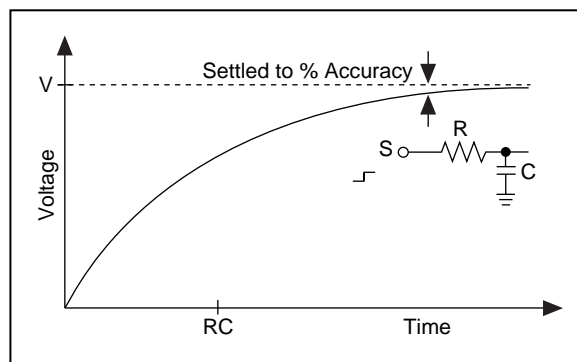

Figure 2. Settling Time of a Standard RC Circuit
Settling time is the result of many factors in the instrumentation amplifier. Consider a standard resistance-capacitance (RC) lowpass filter circuit design. When you apply a voltage step to an RC circuit, the signal requires a certain amount of time to rise and settle within a percentage of the voltage you want, as seen in Figure 2. This percentage of V is the range of accuracy, and the time it takes for the signal to get within the specified range is the settling time.